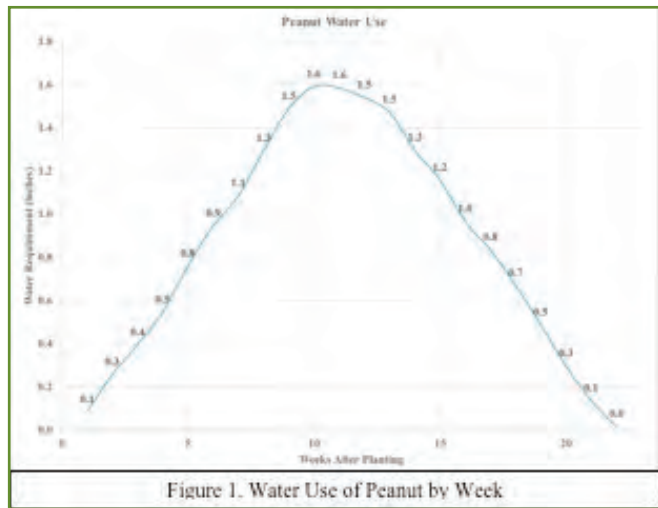

Figure 1. Water Use of Peanut by Week
- The UGA Checkbook (Figure 1) is one of the most commonly used methods for irrigation scheduling, but caution is advised as it was developed based on historical averages, thus, is not an exact fit for years that are either wetter or drier than normal as it will over and under predict water need in those years respectively.